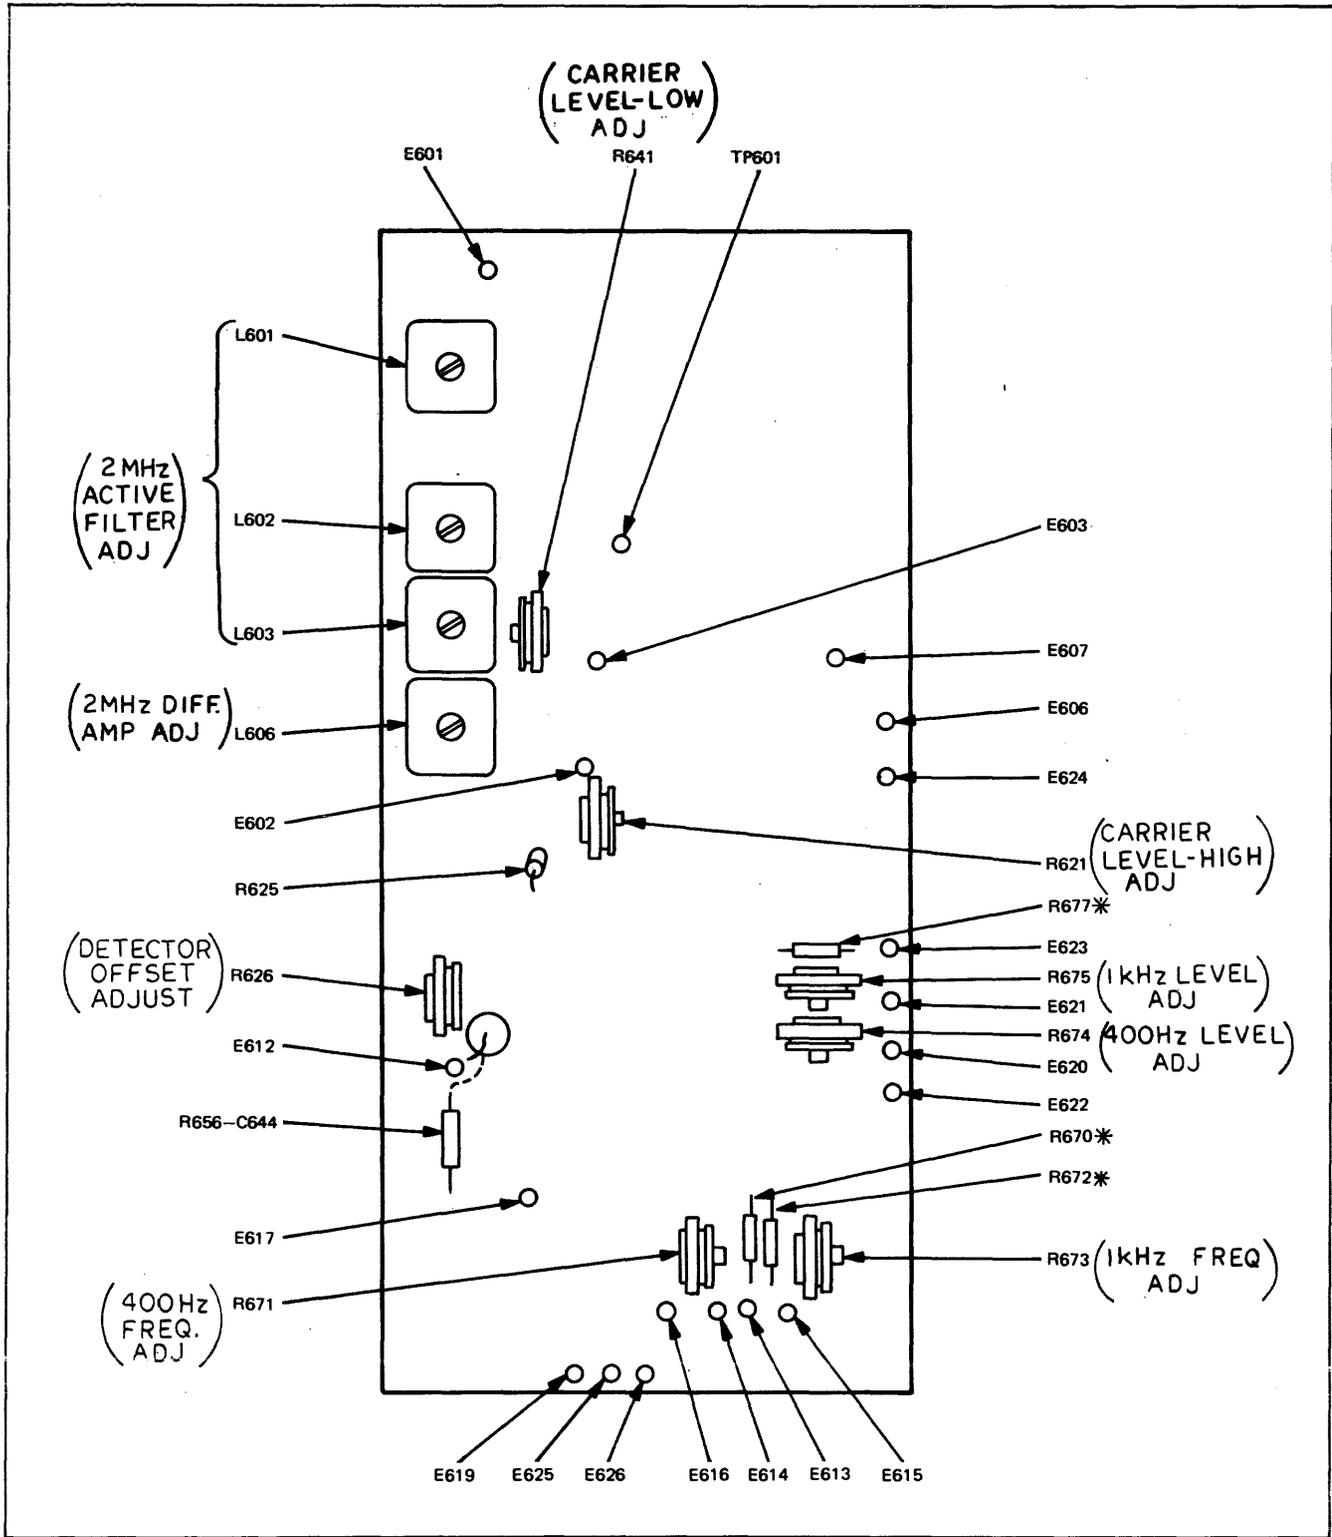

FIGURE 4-35. AM DETECTOR BOARD ASSEMBLY, A1 (OAM-1)
NOTE: The alignment and adjustment procedure is performed with the OAM-1 disconnected from the mainframe so that any problem in the mainframe will not affect the alignment of the OAM-1. Refer to Figures 4-35 through 4-38 for test point and trimmer locations. Remove the five screws in the back panel of the OAM-1 and slide the cover off the back.
a. Connect the 2 MHz signal source to the test connector (Figure 4-35). Connect the ac VTVM between A1 pin E601 and ground. Adjust the 2 MHz signal source output level for 2.5 mV rms on the VTVM.